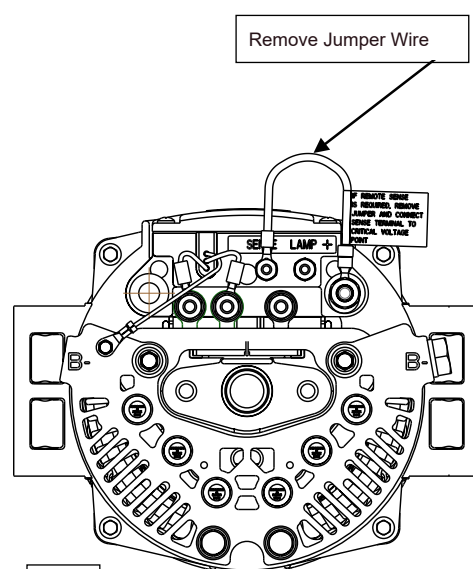

Fig 1
- 1) Remove jumper wire which comes installed for use without remote sense. (Fig 1)